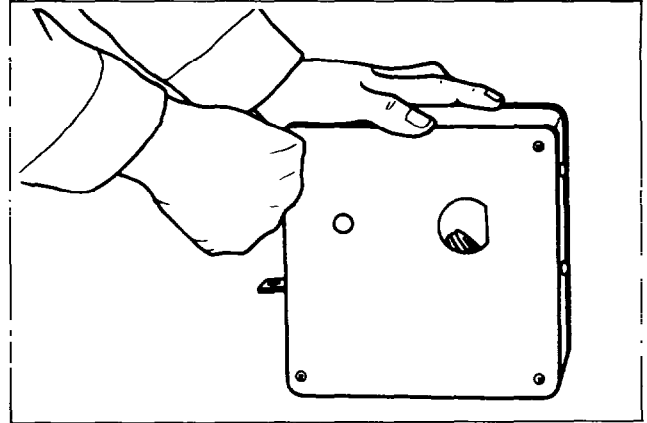

Fig. 10-34
- 1) Remove the control box panel B (rear panel) and the front panel from the control box. (See Fig. 10-34.)